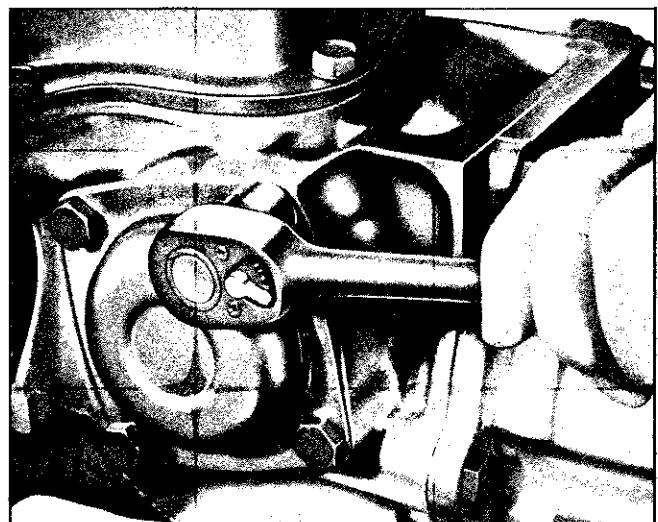

Fig. 7E-13 Removing Governor Cover Attaching Screws
3. Remove speedometer driven gear attaching screw and retainer (Fig. 7E-14).